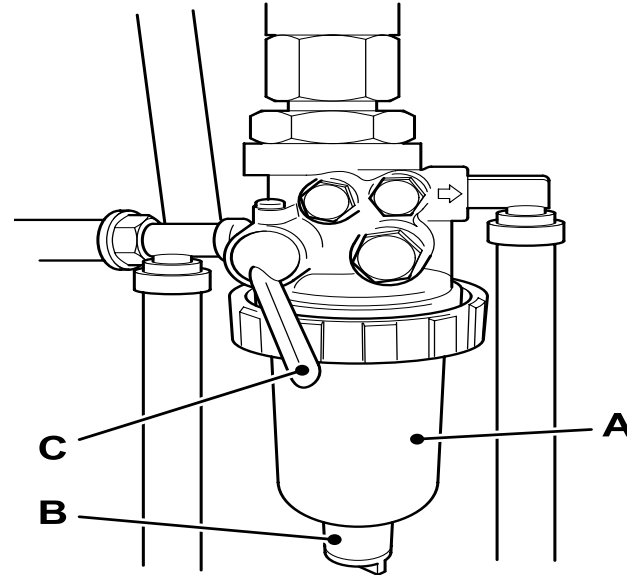

Fig 89.
- 4 If there is water but no sediment, turn off the fuel supply using fuel cock **C**, and drain off the water by opening tap **B**. ➔ Fig 89. \(□ 243\)